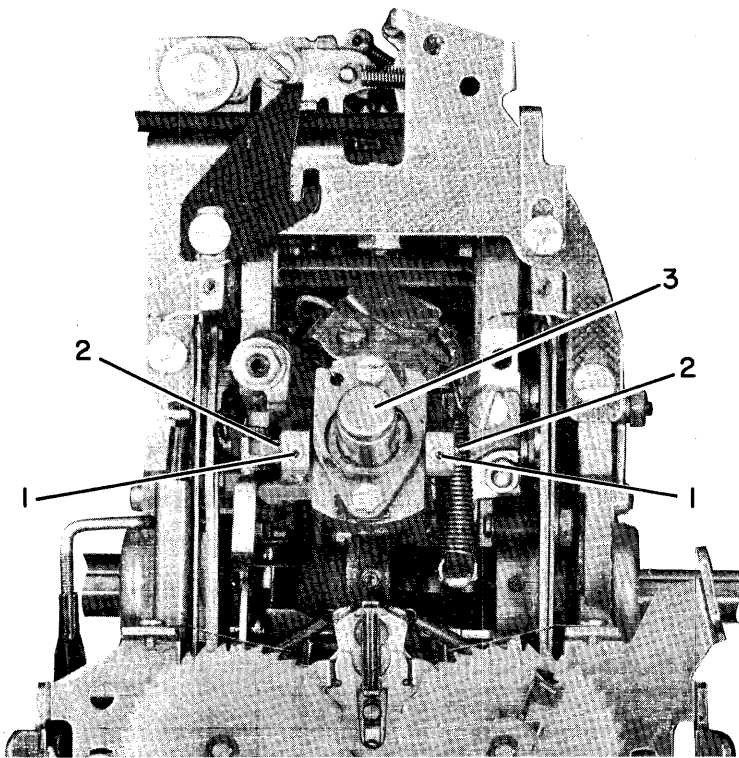

Figure 15. Lower Ball Socket and Tilt Ring Removal
5. Loosen the two set screws (#1, Figure 15).
6. Remove the two pivot pins (#2, Figure 15).
7. Remove the tilt ring (#3, Figure 15) and remove the ball joint.